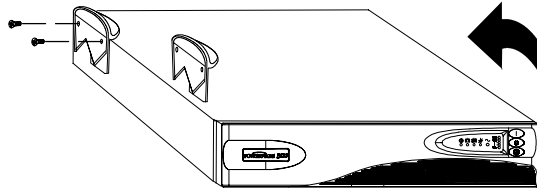

Figure 7. Installing UPS Pedestals with Two Cabinets
5. Place the UPS cabinet horizontally so that the left end of the unit is accessible (see Figure 7).